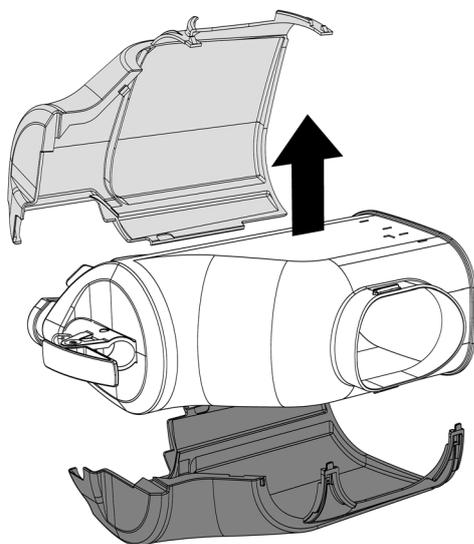

**figure 16**
**1** Click open the two parts. (see figure 16).